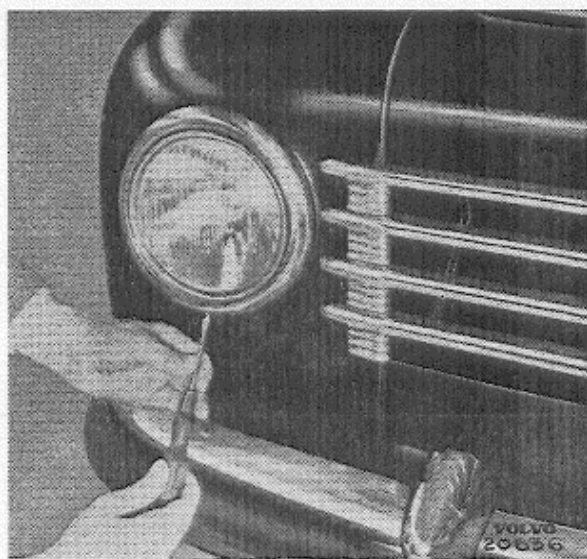

Fig. 12.
1. Remove the headlight rim screw (fig. 12). Remove rim by pulling out the lower part slightly and then lifting upwards.